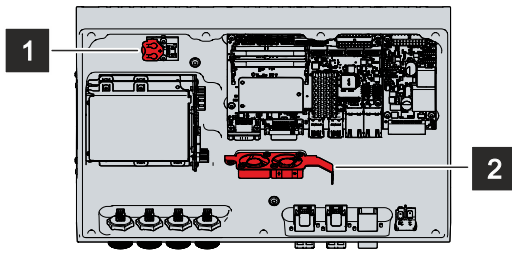

Fig. 28: Battery and fans
- ⇒ You now have access to the battery (1) and the fans (2) (see Fig. 28).
To replace the battery, pull it out of the battery holder (see Fig. 28). Then insert the new battery into the battery holder. Make sure that the polarity is correct as shown in the illustration.